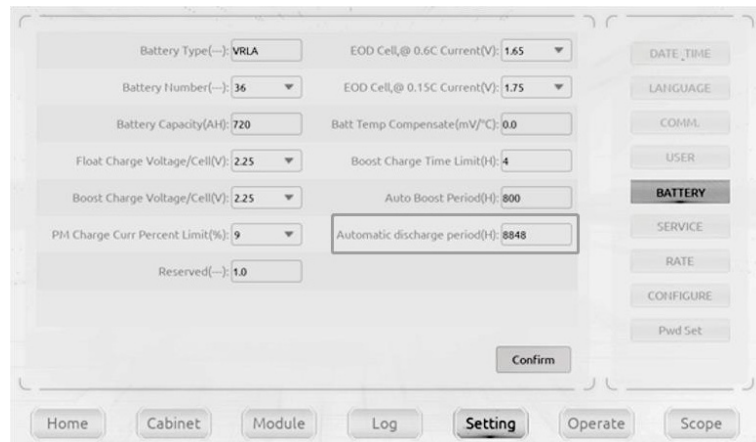

Figure 5-3 Setting period for battery auto discharge
- (1) Enter the system configuration secondary menu under the Settings submenu, select "Automatic Battery Maintenance", and confirm;
- (2) Enter the secondary menu of battery settings under the settings submenu, as shown in Figure 5-3 for automatic battery discharge period settings. Set the discharge period in the "Automatic Discharge Period" and confirm (the battery self-test period is 30-120 days, and if not set by default, the battery self-test is disabled).